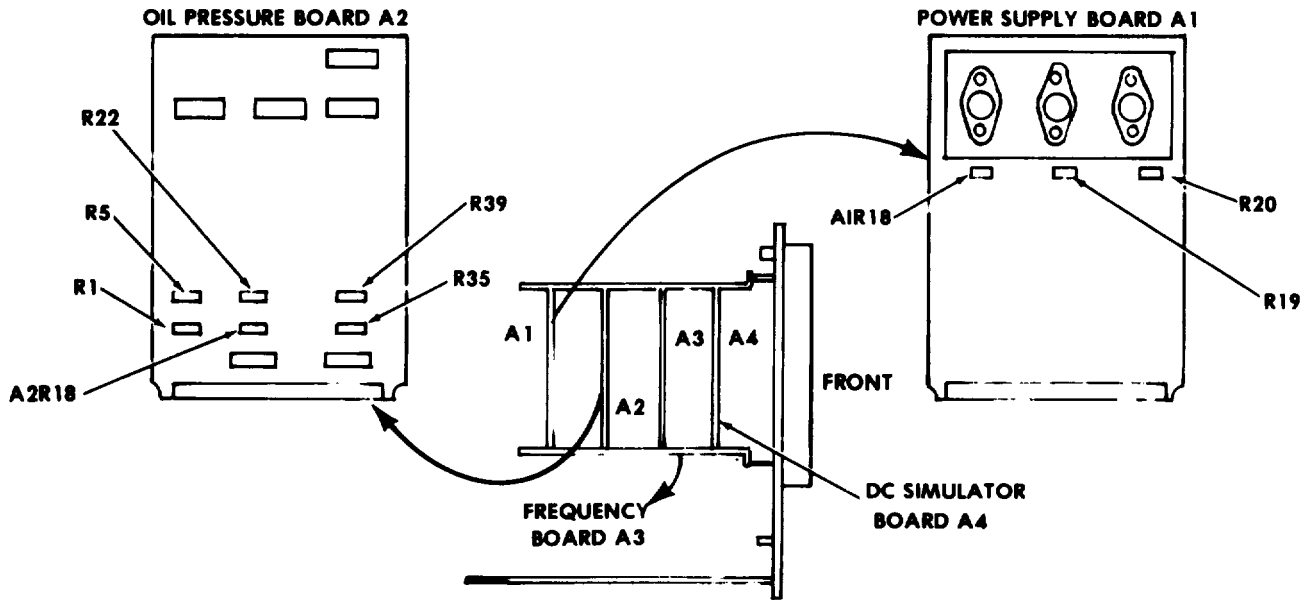

Figure 4-3. Simulator Unit - Internal Left View
- (1) Set all Power to OFF.
- (2) Remove power supply board (A1) Figure 4-3 and reconnect, using extender board.
- (3) Connect digital voltmeter positive to loop 2 and negative to loop 8 on extender board, using two leads.
- (4) Observe that ON-OFF-SIM ONLY switch is set to SIM ONLY and set equipment POWER is ON. Digital voltmeter will indicate between 21 and 27 vac. If not, perform Troubleshooting Table 4-6.
- (5) Disconnect lead from loop 2 and connect to loop 4. Digital voltmeter will indicate between 21 and 27 vac. If not, perform Troubleshooting Table 4-6.
- (6) Disconnect lead from loop 4 and connect to loop 29 and disconnect negative lead from loop 8 and connect to loop 43. Digital voltmeter will indicate between 7 and 9 vac. If not, perform Troubleshooting Table 4-6.
- (7) Disconnect lead from loop 29 and connect to loop 53 and disconnect negative lead from 43 and connect to loop 49. Digital voltmeter will indicate between 7 and 9 vac. If not, perform Troubleshooting Table 4-6.
(8) Disconnect lead from loop 53 and connect to loop 7 and disconnect negative lead from loop 49 and connect to loop 11. Digital voltmeter will indicate between 23 and 29 vac. If not, perform Troubleshooting Table 4-6.